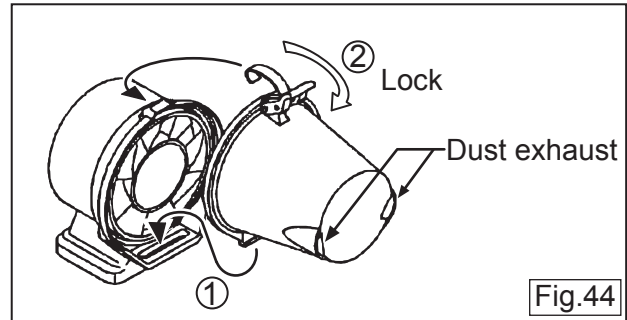

Fig.44
- Latch up securely to return Dust Pot to Air Cleaner.(Fig. 44)